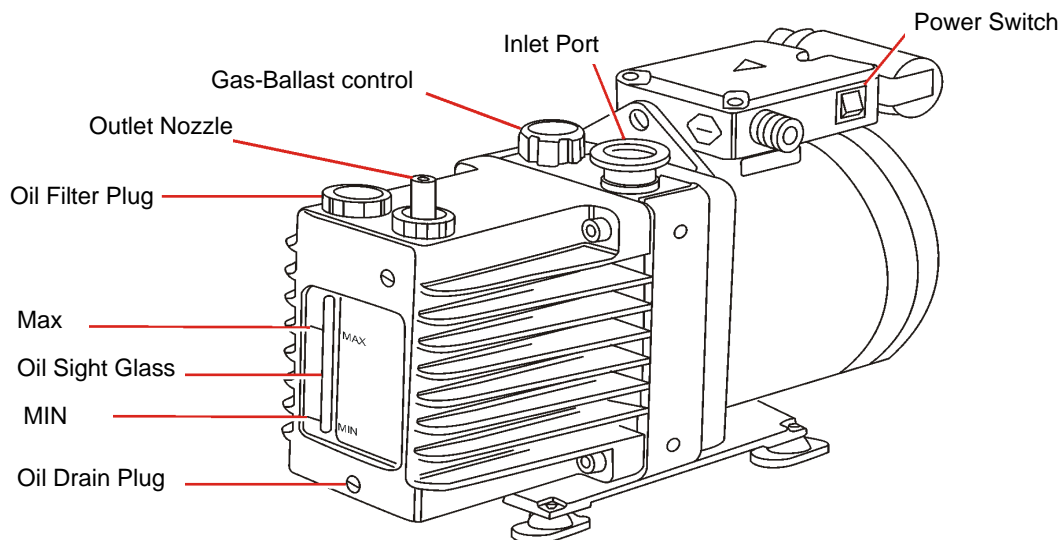

Figure 8-4 E2M28 Rotary Pump
1. Turn on the gas-ballast control (Figure 8-4).
The rotary pump oil level appears in the oil level sight glass on the pump (see Figure 8-4).
5. Place an object under the motor to tilt the pump toward the side on which the oil drain plug is located (see Figure 8-4).